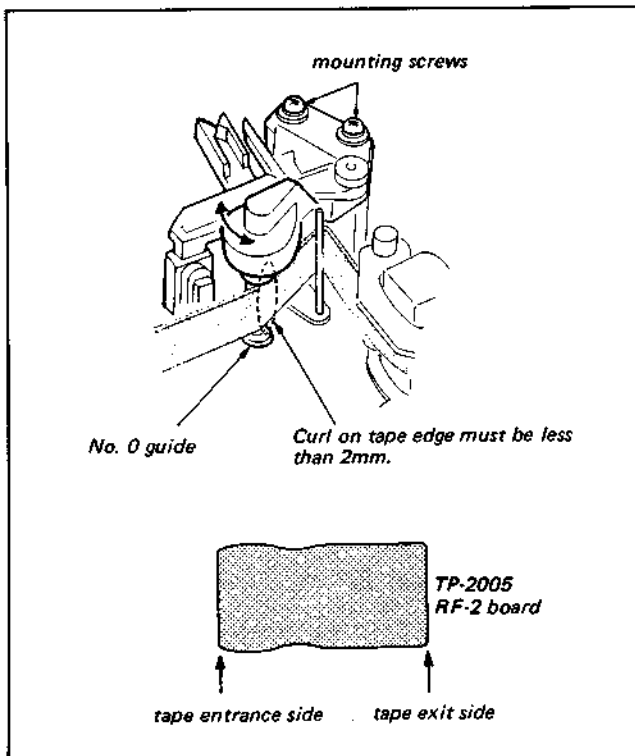

Fig. 3-30. Position adjustment of No.0 guide section assembly mounting
- (ii) Turn the TRACKING control knob so that the RF waveform at TP2005 on RF-2 board is 2/3 of its maximum level. (See Fig. 3-30.)
- (iii) Turn the No.0 guide shown in Fig. 3-30 fully counter-clockwise (↺), then clockwise until the point where the RF waveform at the exit section becomes flat with small fluctuation, and tighten the mounting screws.